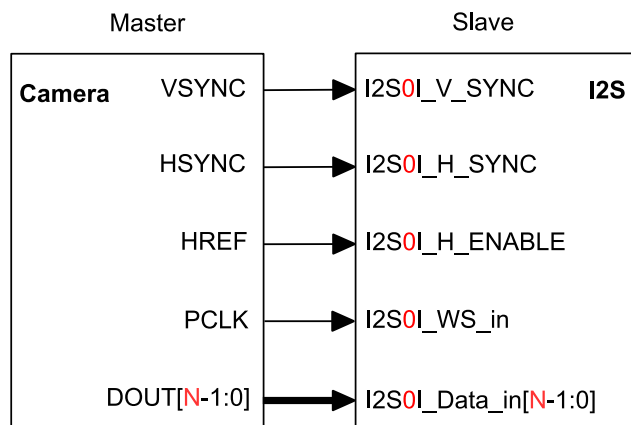

Figure 26-15. Camera Slave Receiving Mode
ESP32-S2 I2S can be configured as camera slave receiving mode for high-speed data transfer with external camera modules. In this mode, I2S module works as slave receiver with a 16-channel data signal bus `I2S0I_Data_in[15:0]`, and three more signals: `I2S0I_H_SYNC`, `I2S0I_V_SYNC`, and `I2S0I_H_ENABLE`, see Figure 26-15.
2. Configure signal pins according to Table 149 and Figure 26-15.